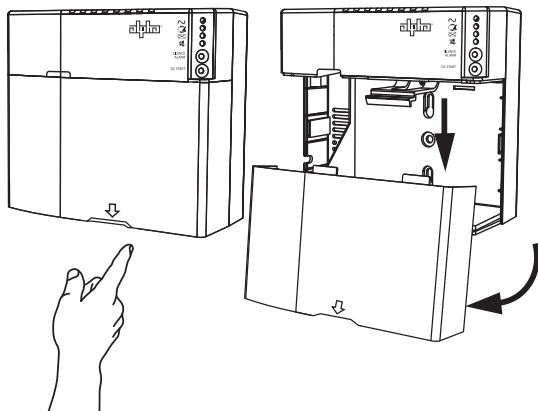

Fig. 2-4, Removing the Battery Cover
1. Open the battery cover, see Fig. 2-4.